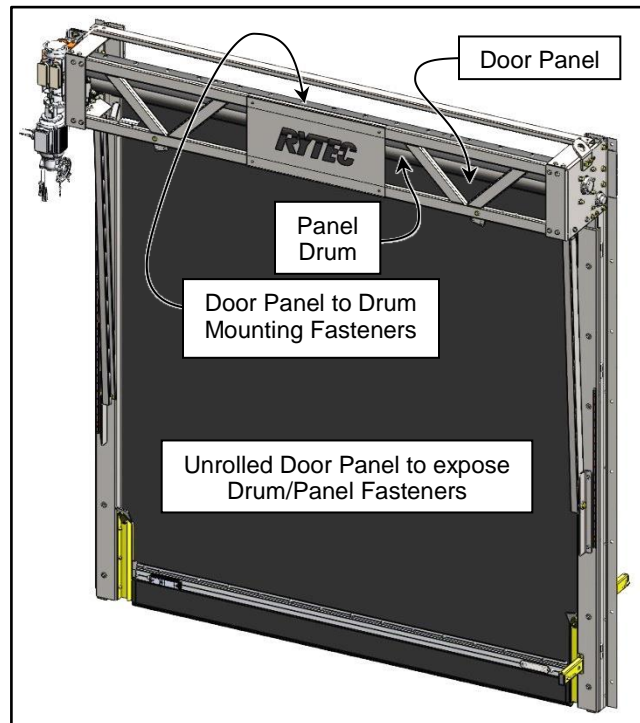

Figure 51
1. Completely unroll the door panel/bottom bar so that you can gain full access to the drum for installation of the front windbar straps. Turn off the door's power. (See Figure 51)